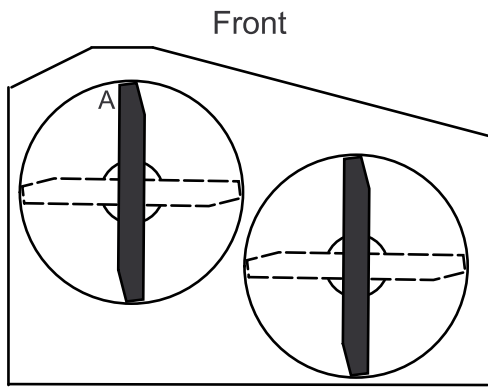

Figure 72
5. For 36 inch mower decks use Figure 72.